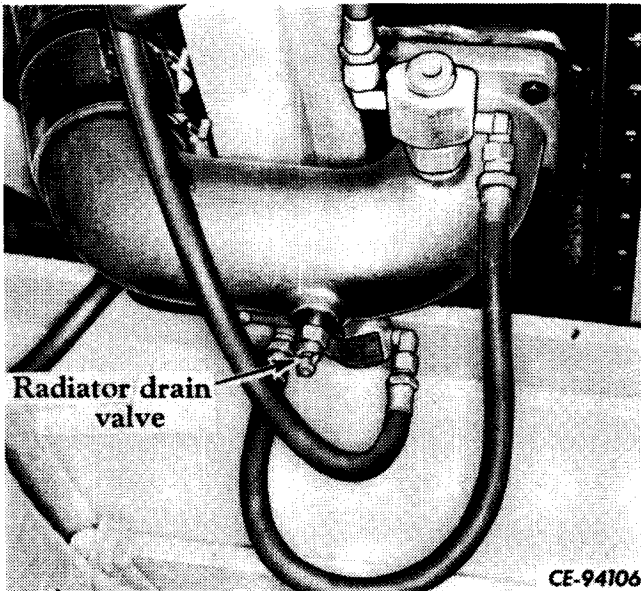

Fig. 22. Radiator Drain Valve
3. Open the radiator drain valve (Fig. 22).